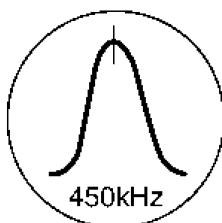

Fig. 6
4. Adjust Z102 so that the output frequency is maximized in Fig. 6.